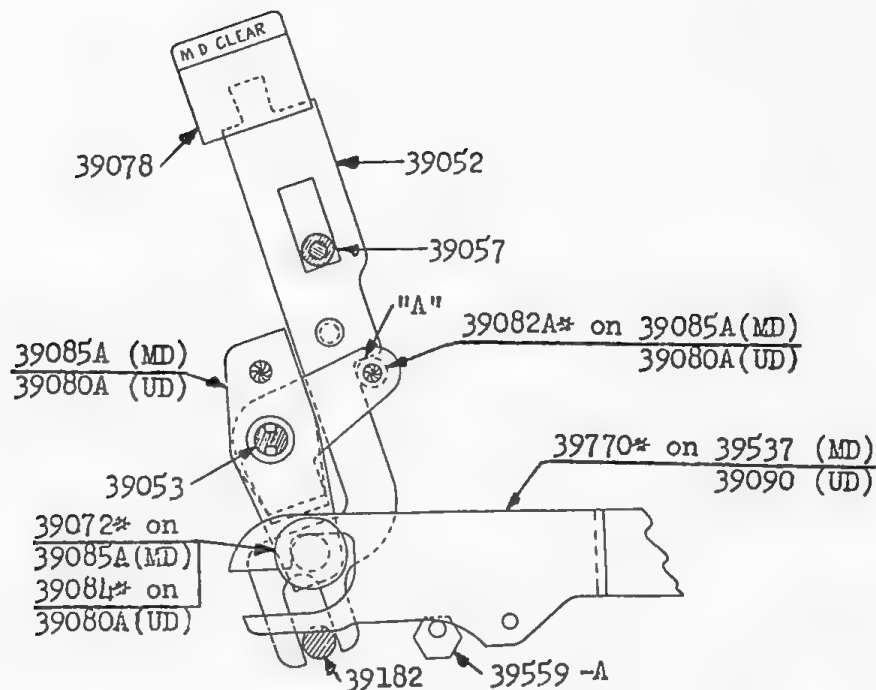

FIG. 70
A. (Fig. 70 & 71). The operations of the Middle Clear and Upper Dial Clear Keys and their respective Lock Keys are identical, although some of the parts involved are shaped differently. The operations of the